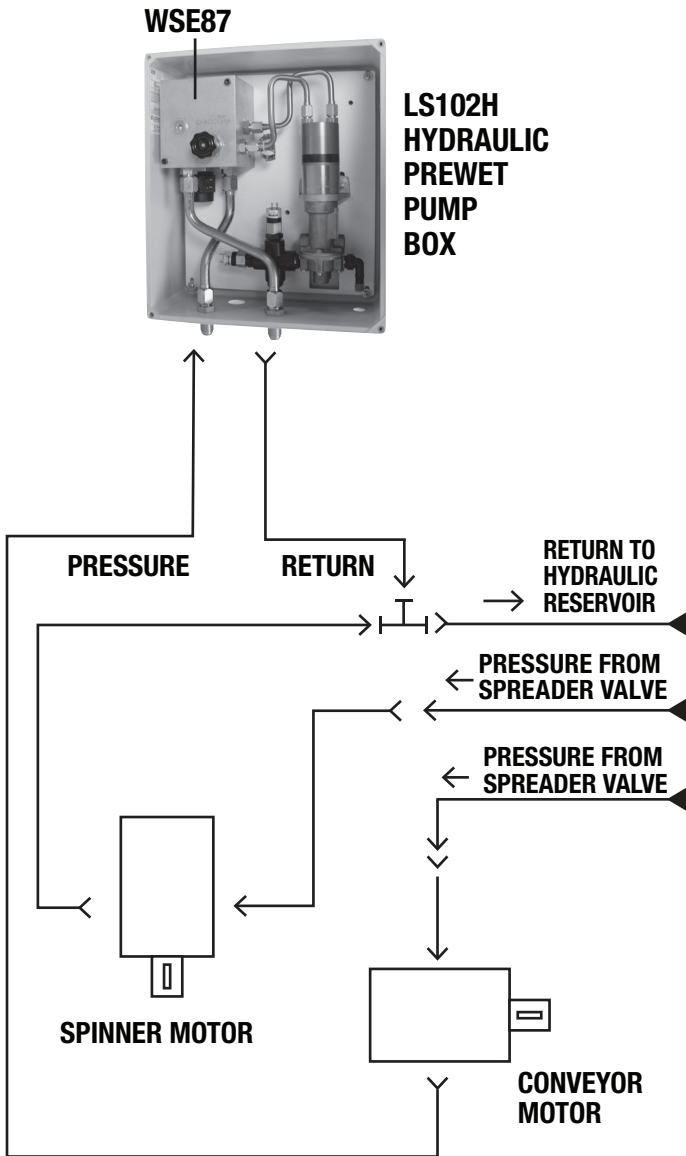

Fig. 3 - Prewet Plumbing Diagram
4. Use the included hardware to mount the Enclosure. All (4) mounting holes on Enclosure's flanges must be used along with (2) internal mounting holes.
5. Plumb: Reservoir, ball valve, check valve, filter, pump enclosure and spray nozzles according to plumbing schematic, Fig 3. Use only Loctite™ #30534 or Permatex™ #2 thread sealants. **DO NOT USE TEFLON TAPE**